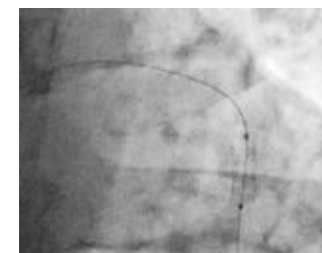

Figure 3: Hi-Def mode assists operators to precisely place the PTCA balloon and avoid the risk of dissection.
“Another thing that I think that Hi-Def can really help with in interventional cardiology is placement of devices to avoid complications.” commented by Dr. Bertolet. When treating in-stent restenosis with Plain Old Balloon Angioplasty (POBA), one of the limitations is edge-related complications with balloon dilation outside the stent that leads to edge dissections and suboptimal outcomes. “In this case, there was a mid left anterior descending in-stent restenosis lesion in a tough area to see. To avoid complications of edge dissection, I was able to place the markers of the balloon within the stent by using Hi-Def mode and had a controlled inflation under Hi-Def (Figure 3). This could be very important if we move to use drug-eluting balloons for coronary in-stent restenosis, which hopefully will come soon.”
and a second wire provided more stability. This was possible to do accurately, because of Hi-Def imaging. (Figure 3). Within the same case, we not only used Hi-Def to diagnose the problem, but also treat it in the most optimal way.
Figure 3: (A) Hi-Def is turned on during the intervention to position the stent for optimal outcome. (B) A stent is expanded by high pressure balloon under Hi-Def. (C) Switching from Hi-Def mode to standard FPD mode is done seamlessly to complete the procedure.